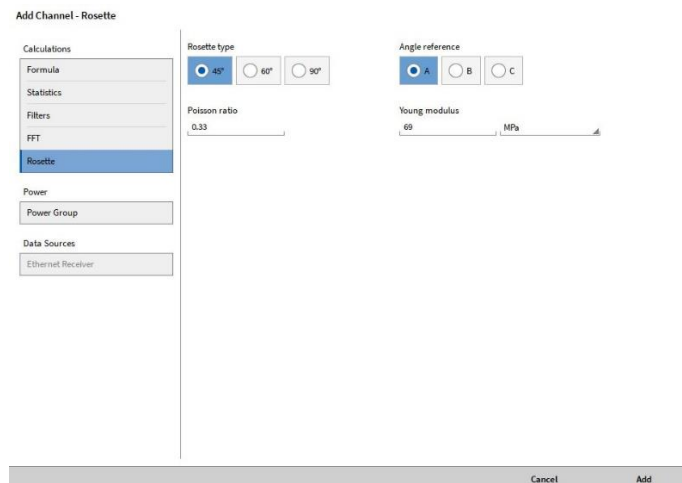
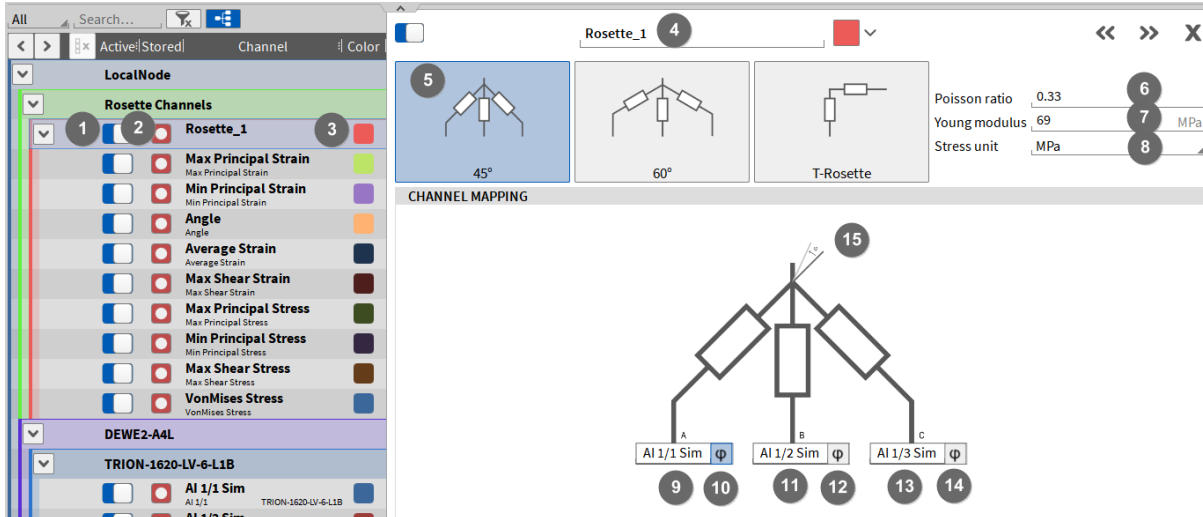
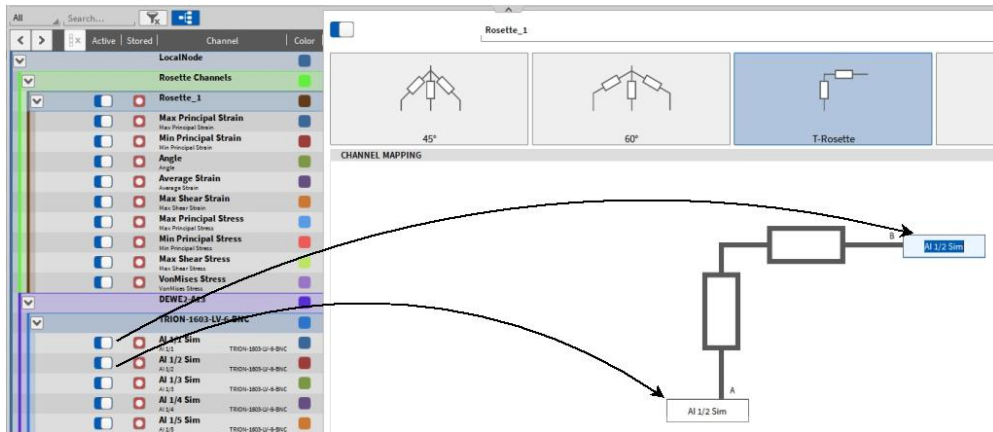

Figure 5-52: Popup window for creating a Rosette calculation
Figure 5-53: Rosette channel setup – Overview
Figure 5-55: Channel assignment in the rosette channel setup
For creating a Rosette channel, the user must click on the *Add* button in the lower left corner (marked red in Figure 5-19) and a window will appear (see Figure 5-52). To create a Rosette channel, select *Rosette*. After clicking on the OK button, a Rosette main channel (*Rosette_1* in Figure 5-53) with its Sub channels (*Max Principal strain* to *VonMises Stress* in Figure 5-53) is added to the channel List. A click on the gear button of the main rosette channel will open the Rosette settings to perform changes afterwards (see Figure 5-53).
- The channel assignment can be edited after creating the Rosette calculation in the Channel setup of the main channel (see 16 in Figure 5-53) by dragging and dropping the desired channel from the Channel List on the left-hand side to the individual input channel of the rosette calculation (see Figure 5-55)
- The sub channels (see 17 in Figure 5-53) resulting from the rosette calculation have a Channel Setup that can be accessed via the Gear Button in the Channel List as well. But only the Channel scaling can be edited there.